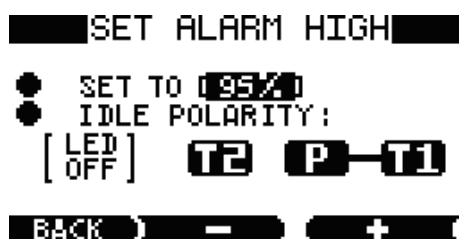

Figure 10: High Alarm Set Value screen
The first menu option allows you to set the value of the high alarm. The set point is given in percent of the span of the unit. To set the value, highlight the numerical value box and press EDIT. Figure 10 below shows the display with the value box selected for setting.
- 2vi) The central and right-hand + and – buttons now enable the limit to be changed in 5% steps (This display screen is shown in Figure 10).
If it is set to LED ON, the High Alarm LED will be on when the indicated concentration is less than the set point and terminal T2 will be connected to the common terminal P. The non-alarm state of the LED and Relay is indicated by the bar connecting either T1 or T2 to P (as shown in Figure 10).
- 4vi) The central and right-hand + and – buttons now enable the limit to be changed in 5% steps (This display screen is shown in Figure 10).